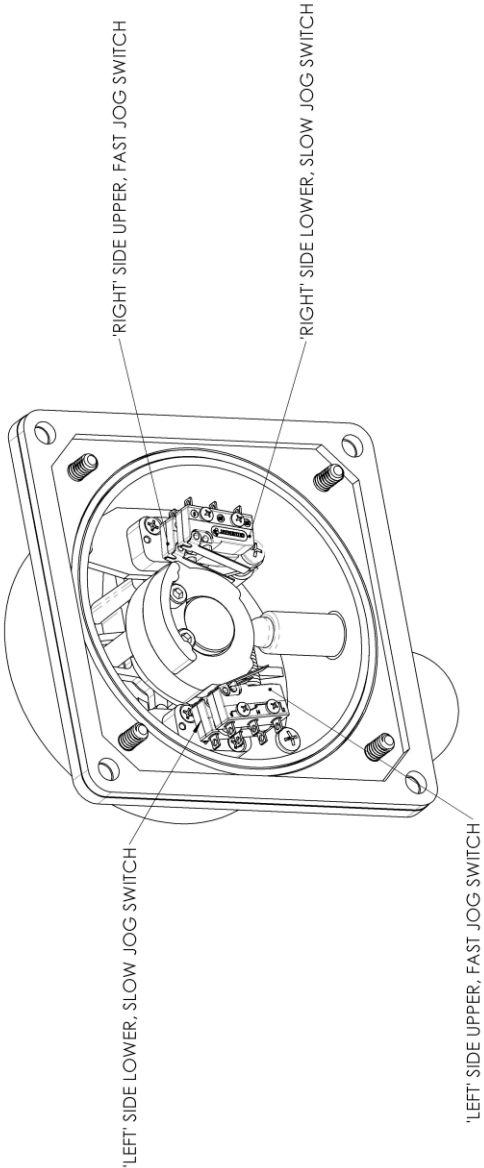

Figure 10: Arrangement of microswitches in jog lever housing
1. Refer to Figure 10 and familiarize yourself with the microswitch positions and what is meant by: left, right, upper and lower switch positions.